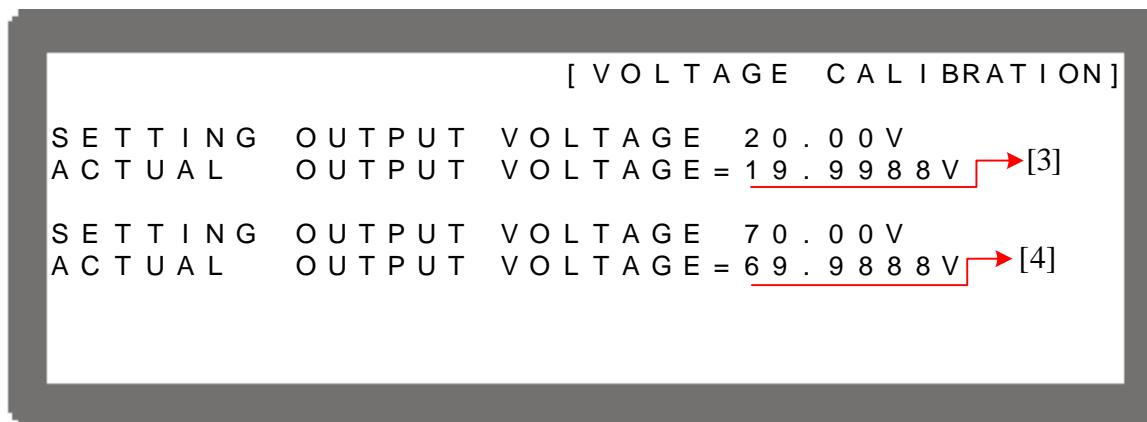

Figure 3-101
7. Press “” to do the high voltage range calibration (80V), the instrument will set the output voltage to 20.00V first and the cursor is stop at position [3] as Figure 3-101 shows. Enter the voltage measured by DVM (4 digits after decimal point) and press “” to confirm.
8. Press “” again to do the high voltage range calibration for its second point, the instrument will set the output voltage to 70.00V and the cursor is stopped at position [4] as Figure 3-101 shows. Enter the voltage measured by DVM (4 digits after decimal point) and press “” to confirm.